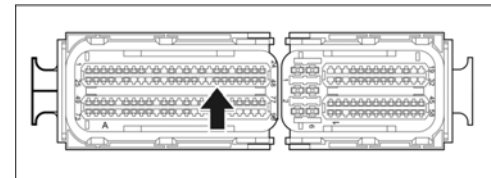

Figure 12
- 11 Insert new line from splice connection 2 into the connector for the DME control unit at **PIN 42** (\Rightarrow *Figure 12 -arrow-*) until the contact engages securely.